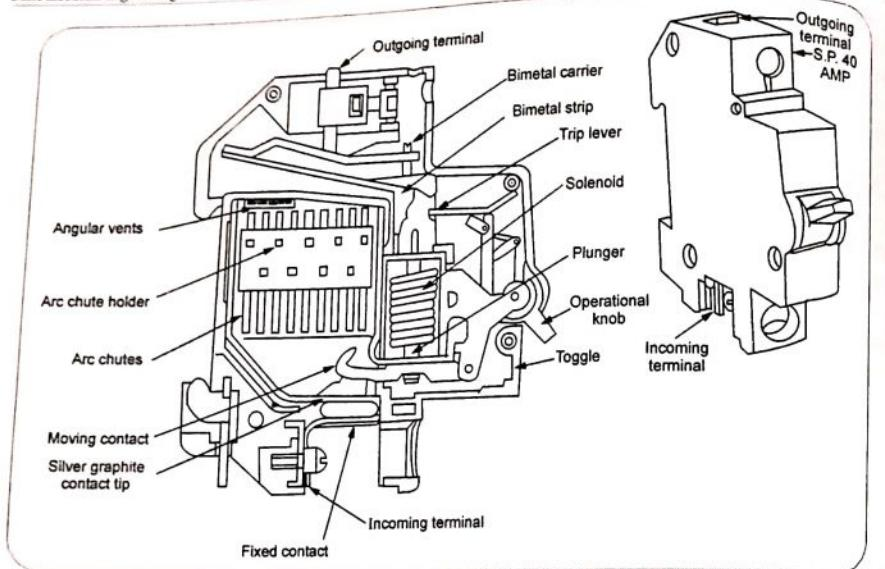

Fig. 6.7.1 Construction and appearance of MCB
- Generally MCBs are rated for a.c. voltage of 240 V for single phase, 415 V for three phase or 220 V d.c. The current rating available is from 0.5 A to 63 A. It is available as Single Pole (SP), Double Pole (DP), Triple Pole (TP) with short circuit breaking capacity from 1 kA to 10 kA with a rated frequency.
- A typical cross-section view of MCB and its practical appearance is shown in the Fig. 6.7.1.